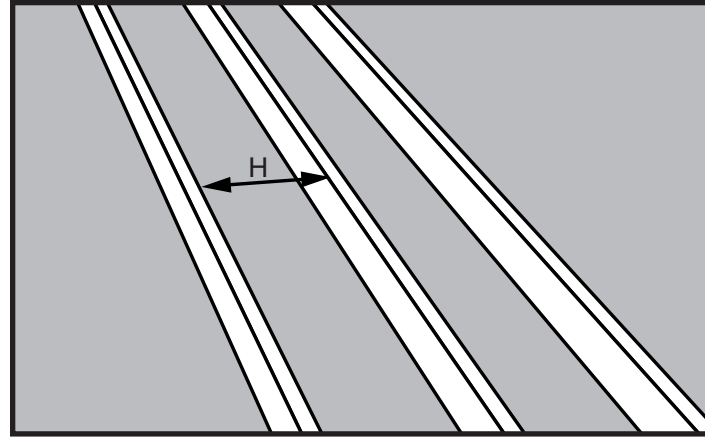

Figure 11
- STEP 1.** Measure the header length "H" between the joists (See Figure 11).